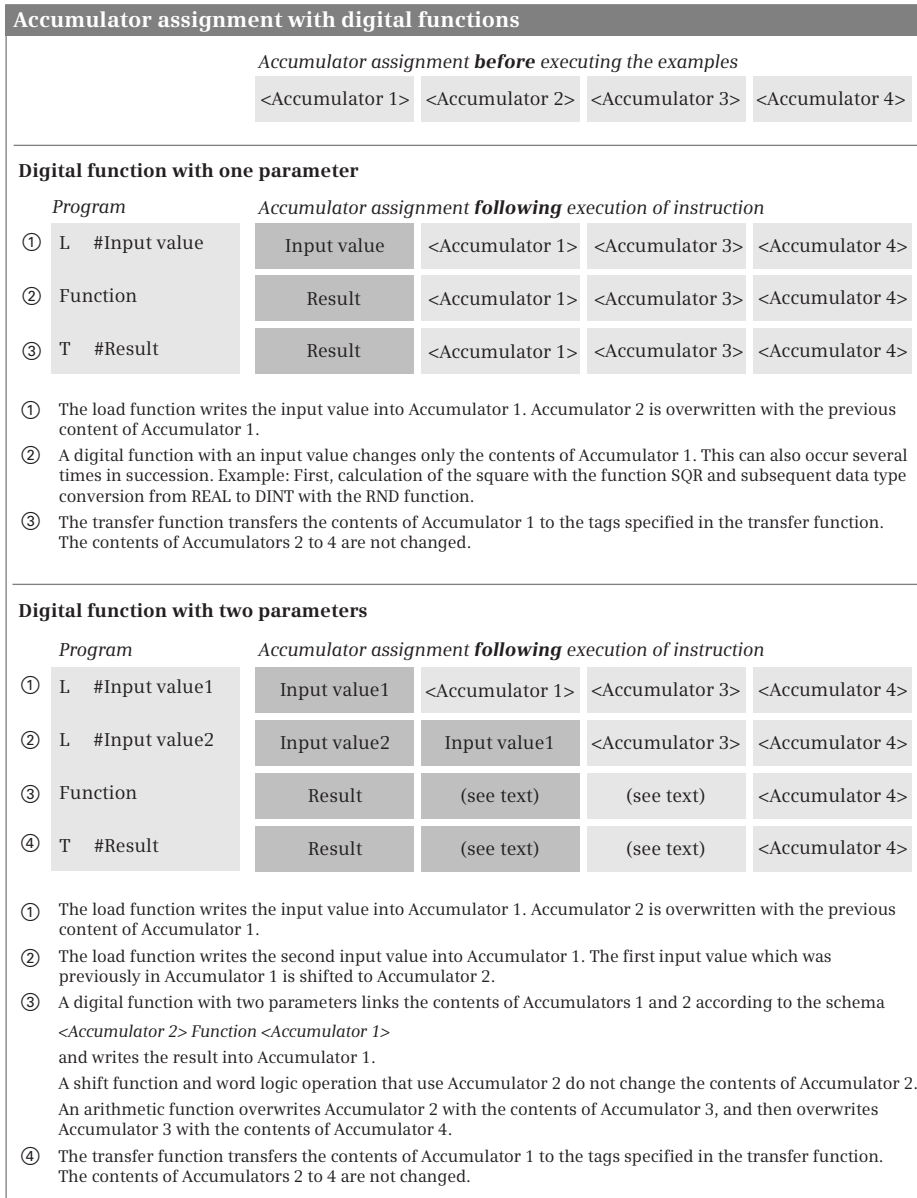

Fig. 9.20 Accumulator assignment with digital operations
Accumulators 1 and 2 are sufficient to execute a digital function. They are supplied with numerical values with the load function (L); the digital function manipulates these values and the transfer function (T) transmits the result back to the user or system memory (Fig. 9.20).